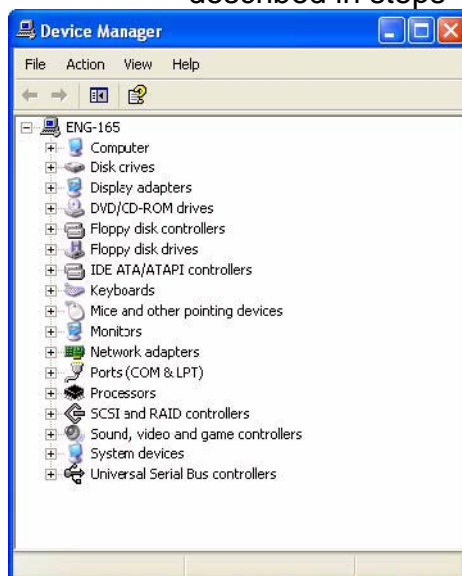

Figure 7-4 Device Manager
1. Access the Device Manager. (Figure 7-4). As described in steps 1 through 3.